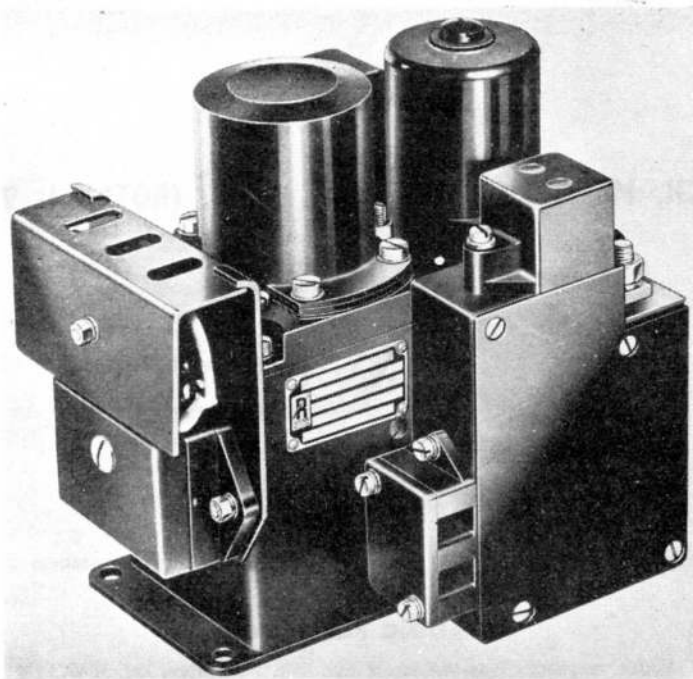

Fig. 1. General view of Type I4A, No. 3 switch
2. The type 14A, No. 3 magnetic switch (fig. 1) is similar in construction to those described in A.P.4343, Vol. 1, Sect. 11, Chapter 16. The unit provides two pairs of auxiliary contacts in addition to the main 112